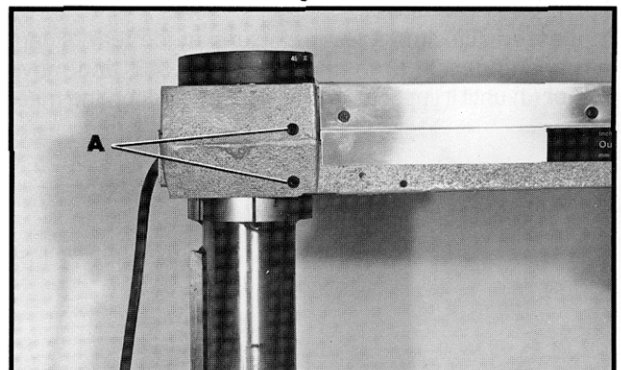

Fig. 42
Tension on the track arm index is set at the factory; however, it can be adjusted. If the track arm index does not drop in readily, very slightly loosen the two adjusting screws (A) Fig. 42, using an Allen key. If "play" exists in the track arm index or it feels loose, very slightly tighten the two adjusting screws (A).